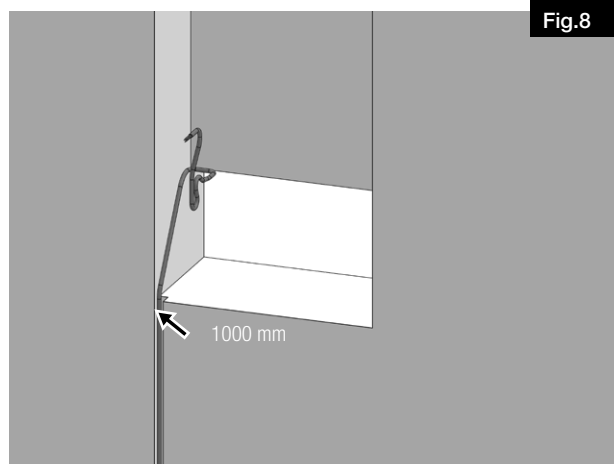

Fig.8
4. Lay the mains connection and control cable (NYM-J3 x 1.5 mm²) in the correct position and secure them (see Fig.8). The cables must extend 1000 mm beyond the lower edge of the wall installation element.